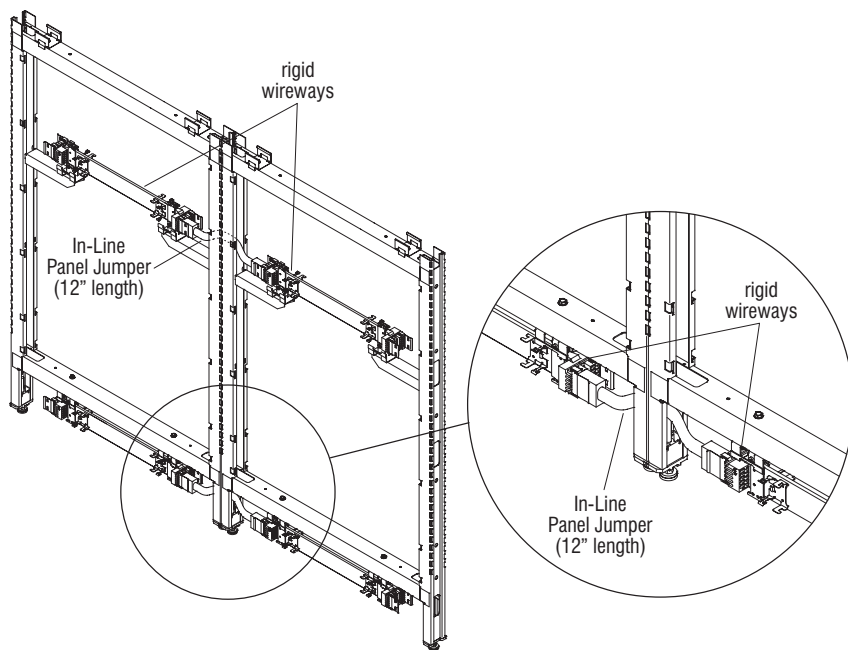

Figure 3 - 180° In-line Panel Jumper, 12" length
1. At the location specified for a horizontal jumper, route the panel jumper through the holes in the vertical posts between the panels, then plug the ends into each rigid wireway (Figures 3 through 9).